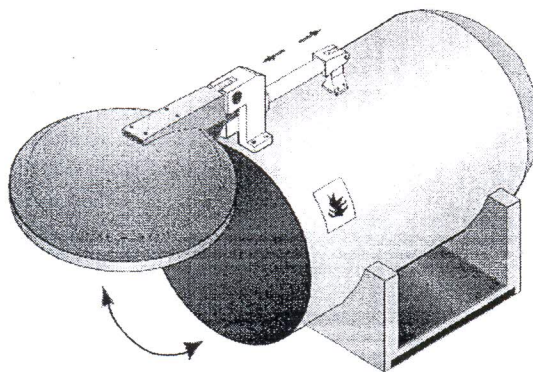

Figure 7
- (b) A furnace door is opened and closed by a double acting cylinder shown in Figure 7. The cylinder is activated by a 4/2-way valve with spring return. This ensures that the door opens only as long as the valve is actuated. When the valve actuating lever is released, the door is closes again.